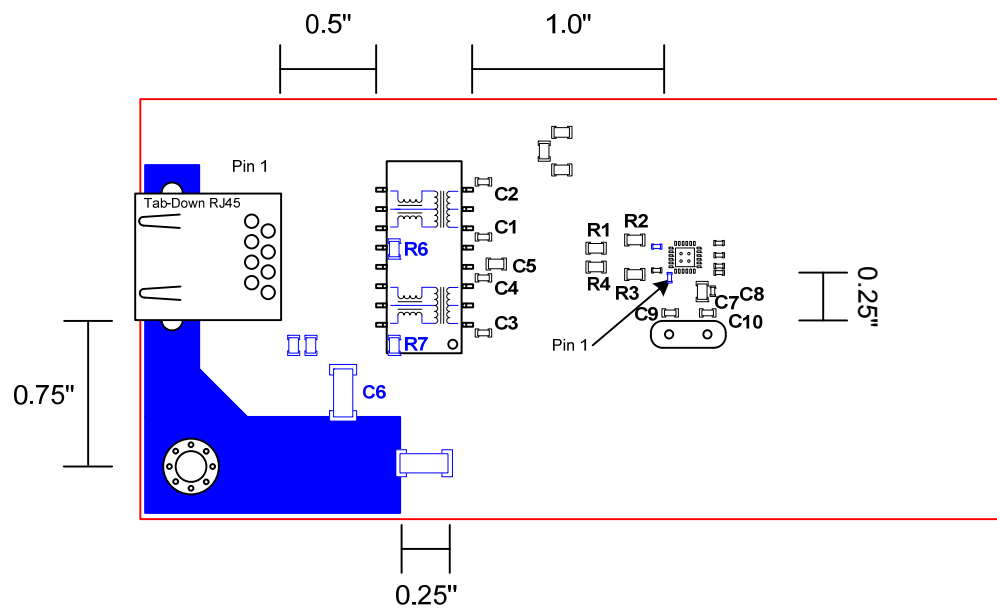

Figure No. 2
3. See Figure No. 2 below for minimum distance requirements related to the RJ45 connector, the magnetics and the LAN8720 Phy.
2. See Figure No. 2 for distance requirements related to the LAN8720 Phy. The crystal and associated components should be located within 0.25" of the LAN8720.